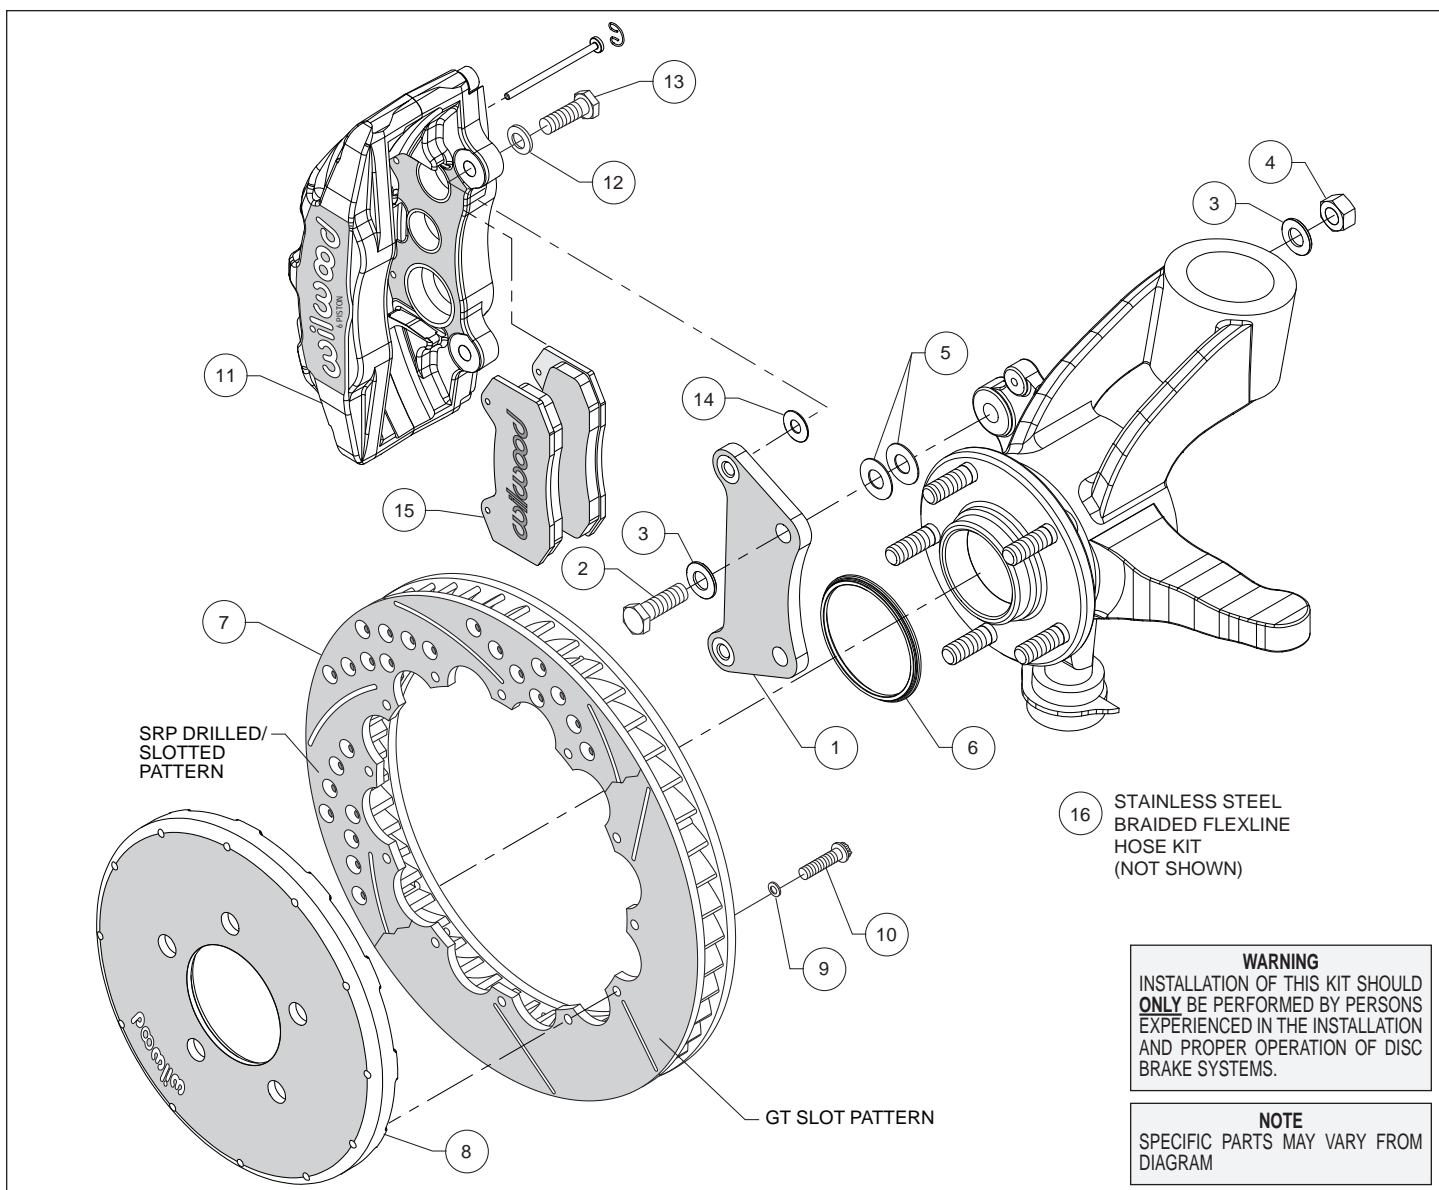
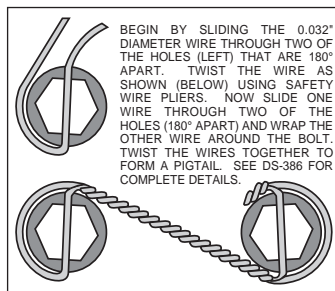

Figure 1. Typical Installation Configuration
Figure 3. Safety Wire Diagram
Assembly Instructions (numbers in parenthesis refer to the parts list and Figure 1 on the preceding pages):
- Orient the caliper mount bracket (1) as shown in Figure 1 and Photo 1, and install using bolts (2), washers (3), and nuts (4). Place two .033" thick shims (5) on each bolt between the bracket and caliper mounting bosses, Figure 1. Ensure that the flanged heads of the clinch nuts in the bracket are facing outboard, Photo 1. Temporarily tighten the mounting bolts. **NOTE:** The bracket must fit squarely against the mount bosses on the upright. Inspect for interference from casting irregularities, machining ridges, burrs, etc. Remove bolts one at a time, apply red *Loctite*® 271 to the threads and torque to 60 ft-lb.
- Orient the rotor (7) and the hat (8) as shown in Figure 1 and Photo 2. Attach rotor to hat using bolts (10) and washers (9). Using an alternating sequence, apply red *Loctite*® 271 to the threads and torque bolts to 155 in-lb. For an added measure of security, the bolts may be safety wired using standard 0.032 inch diameter stainless steel safety wire as shown in Figure 3. Please refer to Wilwood's data sheet DS-386 (available at www.wilwood.com/Pdf/DataSheets/ds386.pdf) for complete safety wire installation instructions.
- **NOTE:** This kit contains distinct right and left hand calipers that must be mounted in a specific direction, as described below. Mount the caliper (11) onto the caliper mounting bracket (1) using bolts (13) and washers (12), as shown in Figure 1. Initially place one .035" thick shim (14) on each bolt between the caliper and the bracket, Figure 1 and Photo 5. Ensure that the caliper is mounted so the largest pistons are at the rotor exit end of the caliper, in relation to the direction of rotor rotation. Temporarily tighten the mounting bolts and view the rotor (7) through the top opening of the caliper. The rotor should be centered in the caliper, Photo 6. If not, adjust by adding or subtracting shims (14) between the bracket and the caliper. Always use the same amount of shims on each of the two mounting bolts. Once the caliper alignment is correct, remove the mounting bolts and caliper.
- Remove the two pad retaining pins from the caliper (11) by carefully popping out the pin retaining clips and sliding out the pins. Insert the brake pads (15) into the caliper from the bottom, Figure 1 and Photo 7, with the friction material facing the rotor. Secure the brake pads in place with the pad retaining pins and clips, Photo 8. Reinstall the caliper onto the caliper mounting bracket. Apply red *Loctite*® 271 to bolt threads (13), and torque to 40 ft-lb.